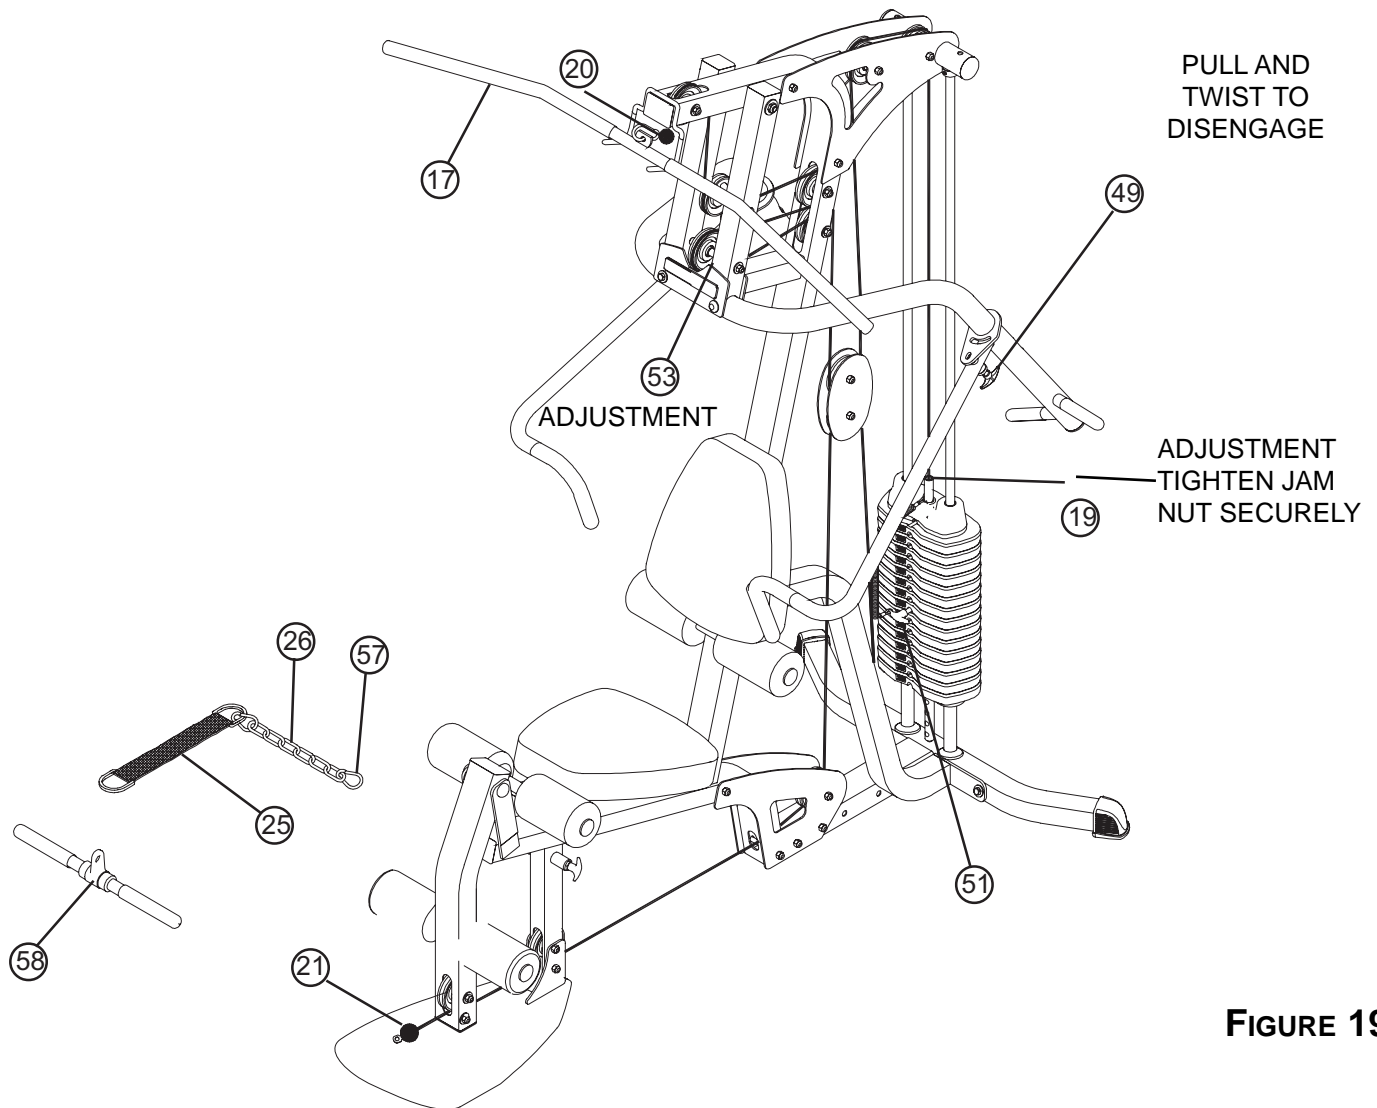

FIGURE 19
- If upon completion of assembly, the HEAD PLATE (19) does not sit on top of the first WEIGHT PLATE (22), push the HEAD PLATE (19) down, insert the WEIGHT SELECTOR PIN (51) and perform several repetitions at the press station. This will relax the cable system and prevent the HEAD PLATE (19) from lifting up. See FIGURE 19.
- If after completing the previous step, the HEAD PLATE (19) still does not sit on top of the first WEIGHT PLATE (22), or if there is excess slack in the cable system, adjust the threaded end of the LAT CABLE (20) and ADJUSTABLE GLIDE (53) accordingly and retighten the jam nuts. See FIGURE 19.
- For maximum performance, the HEAD PLATE (19) should just barely sit on the top WEIGHT PLATE (22).
- Attach the LAT BAR (17) to the ball end of the LAT CABLE (20) using one SNAP LINK (57) as shown in FIGURE 19.
- Attach the ANKLE STRAP (25) to the LINK CHAIN (26) using one SNAP LINK (57) as shown in FIGURE 19.
- Attach the LOW ROW BAR (58) to the ball end of the LOW CABLE (21) using one SNAP LINK (57).